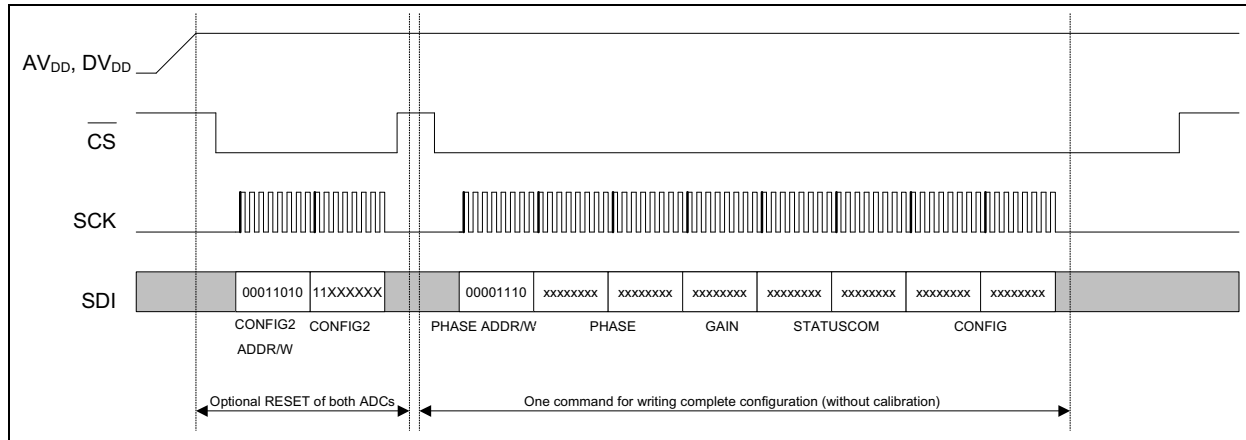

FIGURE 6-8: Recommended Configuration Sequence at Power-up.
- Write all Configuration registers in one communication (see Figure 6-8)
It is recommended to enter into ADC Reset mode for both ADCs, just after power-up; this is because the desired MCP3911 register configuration may not be the default one. In this case, the ADC outputs undesired data. Within the ADC Reset mode (RESET[1:0] = 11), the user can configure the whole part with a single communication. The write commands automatically increment the address so that the user can start writing the PHASE register and finish with the CONFIG register in only one communication (see Figure 6-8). The RESET[1:0] bits are in the last byte of the CONFIG register to allow exiting the Soft Reset mode, and have the whole part configured and ready to run in only one command.